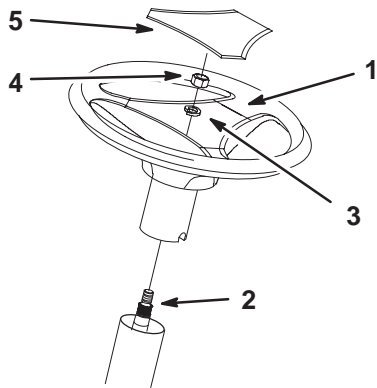

Figure 2
3. Line up the center spoke toward the seat and position the steering wheel onto the shaft spline (Fig. 2).
4. Secure the steering wheel with a lockwasher (1/2 inch) and nut (1/2 inch) (Fig. 2).
6. Snap the logo cover into place (Fig. 2).